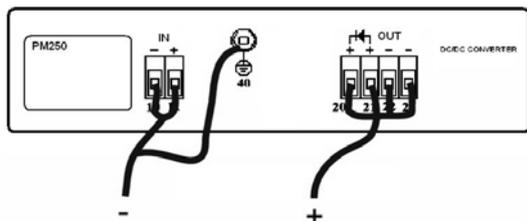

Figure 6. Output to case isolation voltage test.
- Connect your isolation tester between output and case. See *Figure 6*. Raise the voltage of the isolation tester from 0 to 2000Vd.c. Check that the leakage current does not exceed 5 μA . The voltage should not be applied for more than a few seconds or the Y-capacitors might be damaged.